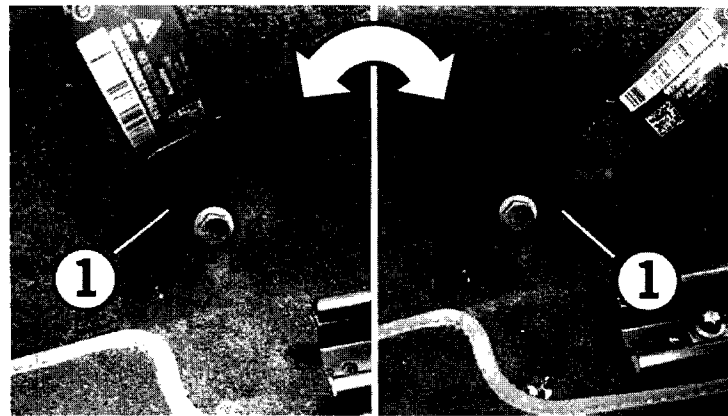

Figure 3
- 3 Check freedom of \Rightarrow Figure 3 -Pos. 1- movement of seat belt end fitting. Twist the seat belt end fitting \Rightarrow Figure 3 -Pos. 1- to the left and right \Rightarrow Figure 3 -Pfeil-. The seat belt end fitting must be able to rotate freely around the fastening screw with a **minimum application of force**.